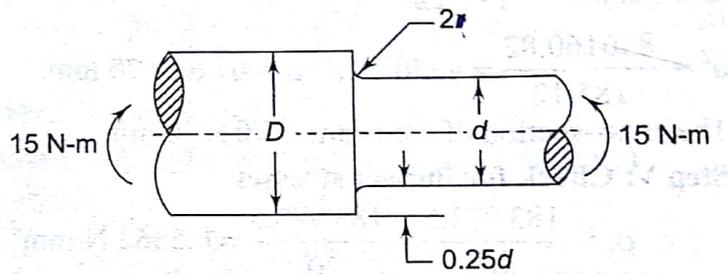

Fig. 5.59
- 5.2 **M** A round shaft made of a brittle material and subjected to a bending moment of 15 N-m is shown in Fig. 5.59. The stress concentration factor at the fillet is 1.5 and the ultimate tensile strength of the shaft material is 200 N/mm². Determine the diameter d , the magnitude of stress at the fillet and the factor of safety. [LO 1]